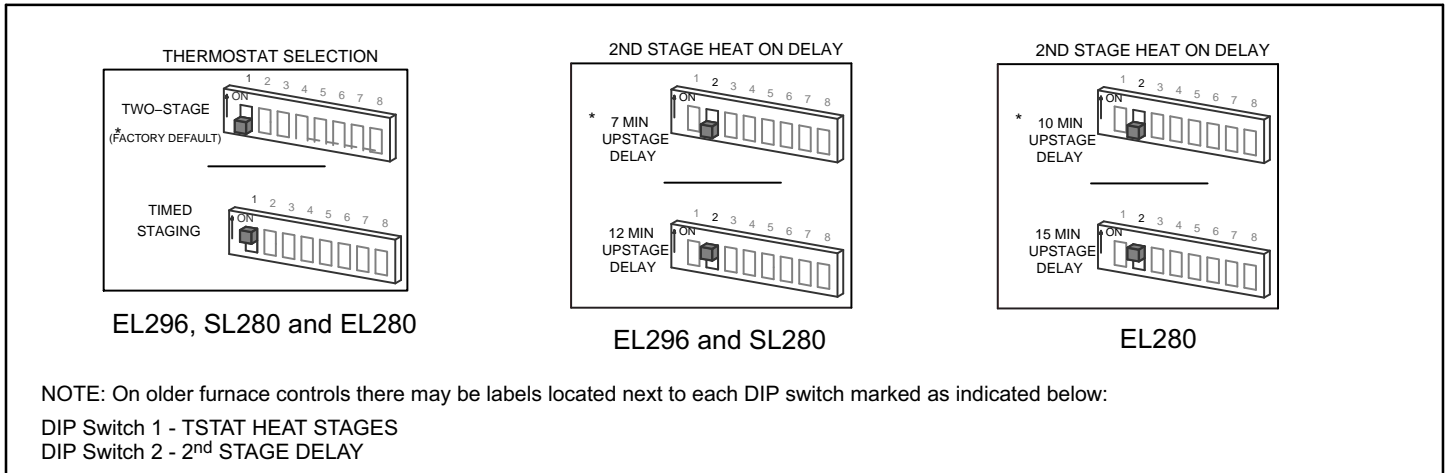

FIGURE 1. DIP SWITCHES ON FURANCE CONTROLS
- ❑ **THERMOSTAT SELECTION:** For two-stages of gas heat, set DIP switch #1 on the integrated furnace control to the **ON** position (TIMED STAGING) (see figure 1). This will allow for second-stage operation by using the delay timer built into the integrated furnace control. While in TIME STAGING thermostat mode, the burners will always fire on first-stage heat. The combustion air inducer will operate on low speed and indoor blower will operate on low heat speed and then afterward a specific delay as reference below will occur before entering second-stage gas heating.